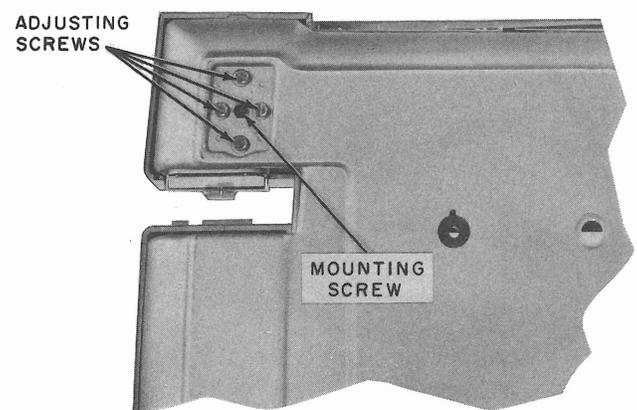

Fig. 4—33-Type TTY Data Station—Tape Reader Base
- (1) Perform 2.01 (1) through (8).
- (2) Perform 2.02 (1) through (8).
- (3) Remove the center mounting screw from tape reader base (Fig. 4).